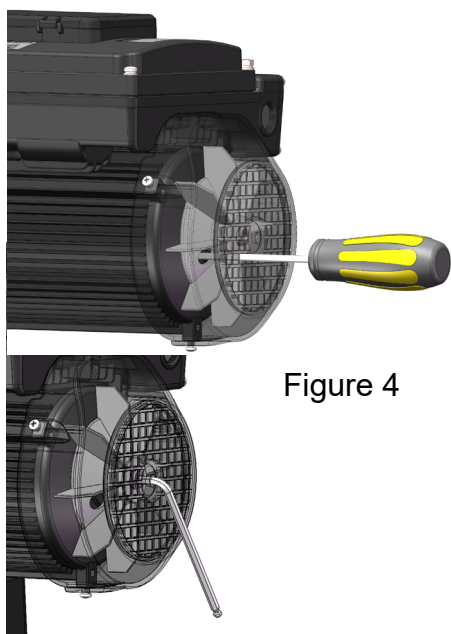

Figure 4
4. To unscrew the impeller from the shaft, insert a Phillips screwdriver into the motor fan hole and twist the impeller counter-clockwise. See Figure 4.